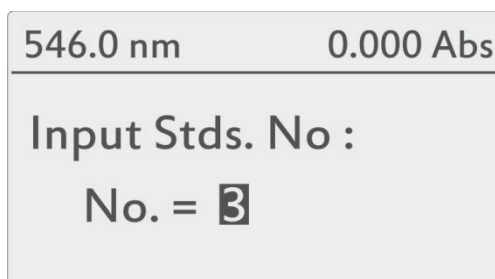

Figure 12 – Entering the number of reference standards
1. Set the required wavelength (item 8.6).
2. If necessary, calibrate the instrument with the cell containing the blank solution along the beam (item 8.7).
3. Switch the instrument to the mode C using the **MODE** button. The display will contain the menu for working with graduations (Figure 12).